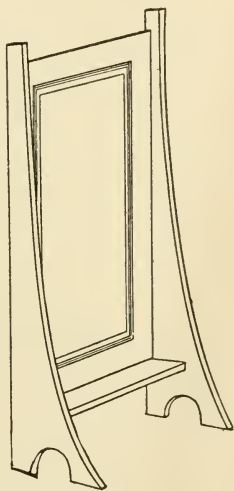

FIG. 133. — A Mirror.
**A Mirror** in a frame should be made for the living-room of the doll-house. A neat and suitable design for one of these will be seen in Fig. 133.